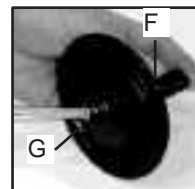
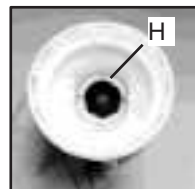
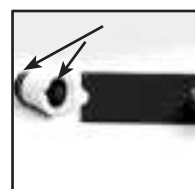
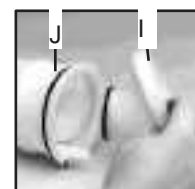

Figure 4.
Figure 5.
Figure 6.
Figure 7.
4. Next remove the 12 torx screws that hold the flange in place. The flange and diaphragm can then be removed. Figure 3. Note: For clarity the pressure cylinder is shown removed from the tank. Figure 4.
5. To replace the diaphragm, remove the connecting rod retaining screw (G) from the plunger and lever (F). Replace the diaphragm and reassemble. See Figure 4. Figure 5.
6. The valve assy. (H) is removed using a locally made tool. Remove red valve plate retaining pin using needle nose pliers, then insert tool into slots. See Figure 5. Use a screwdriver to rotate tool counter clockwise. Figure 6.
7. The valve plates and O-rings can now be replaced. The bottom valve plate is secured into place with the red retaining pin. Push pin into place using needle nose pliers. Figure 6. Figure 7.